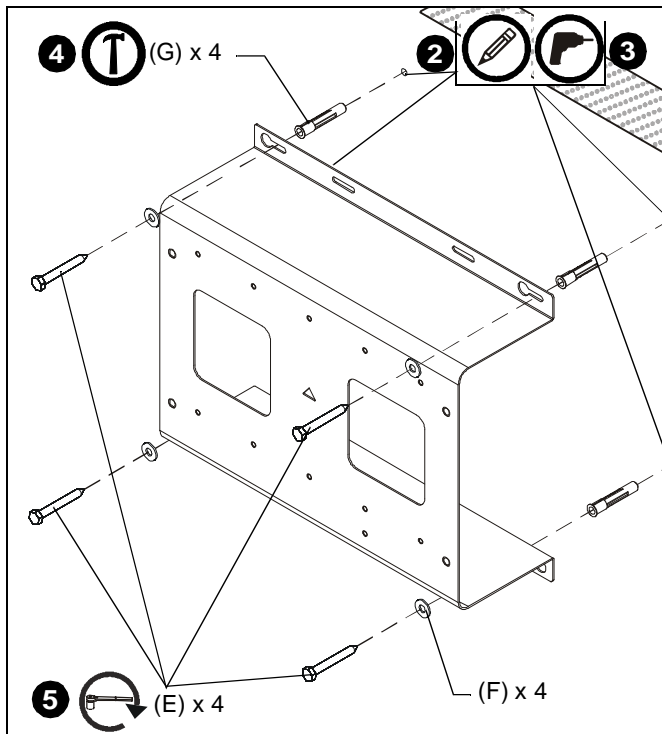

Figure 2
2. Using a level, mark the wall above existing whiteboard through four mounting slots in the WBAP bracket (A). (See Figure 2)
3. Drill one 3/8" x 3-1/2" pilot hole at each marking. (See Figure 2)
4. Install an anchor (G) into each pilot hole using a hammer.
5. Use four 5/16 x 2-1/2" lag bolts (E) and four 5/16" flat washers (F) to attach WBAP bracket (A) to anchors in wall. (See Figure 2)